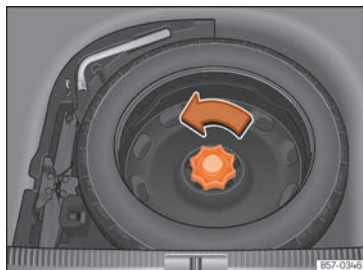

Fig. 233 In the luggage compartment: load floor raised.
- Turn the thumb wheel anti-clockwise »» Fig. 233.